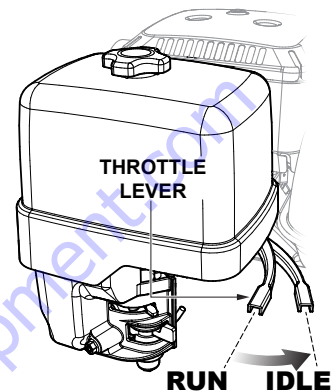

Figure 15. Throttle Lever (Idle Position)
4. Place the throttle lever (Figure 15) in the **IDLE** position.
- Place the throttle lever (Figure 15) in the **IDLE** position, and listen for the engine speed to decrease.